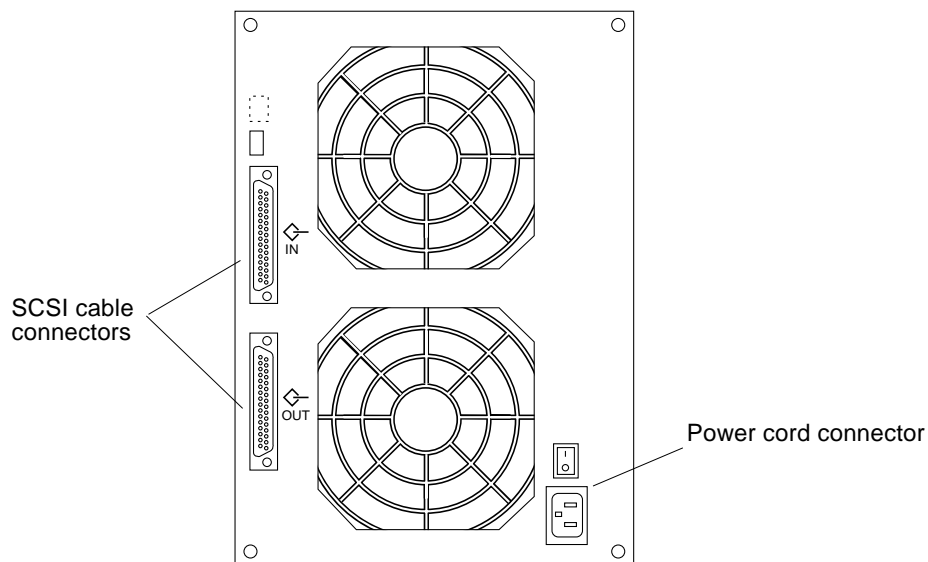

FIGURE 5-3 SPARCstorage MultiPack 2 SCSI Cable and Power Cord Connectors
2. **Remove the SCSI cables and power cord from the enclosure (FIGURE 5-3).**